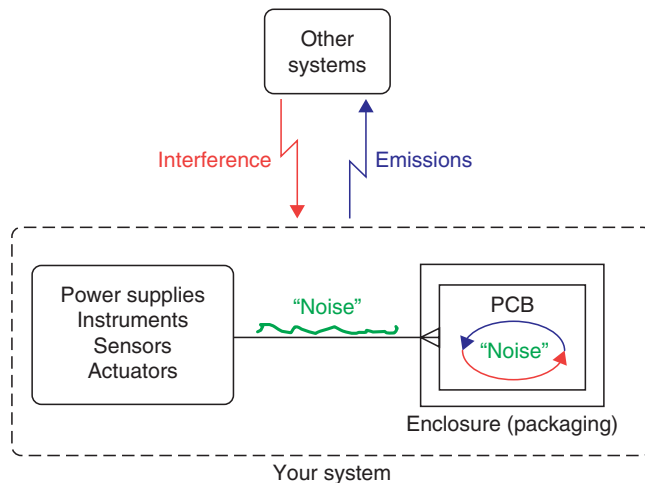

Figure 6-1 The enemy—electromagnetic interference.
There are three goals in designing PCBs for electrical performance and signal integrity: (1) the PCB should be immune from interference from other systems, (2) it should not produce emissions that cause problems for other systems, and (3) it should demonstrate the desired signal quality. A common factor relating these three issues is electromagnetic waves. As Fig. 6-1 shows, “noise” can be introduced into your PCB from outside sources, and it can produce noise that is radiated to other systems and to itself.